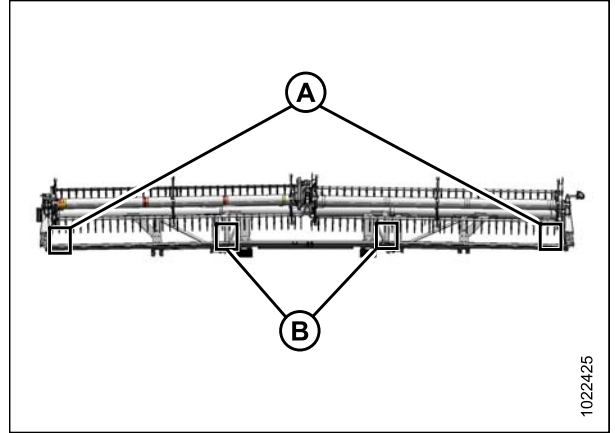

Figure 6.54: Flex Header Measurement Locations
8. Measure the clearance (X) at all possible points of contact (between points [C] and [D] at the ends of each reel [A] and at the flex locations [B]) as shown in Figure 6.54, page 133.